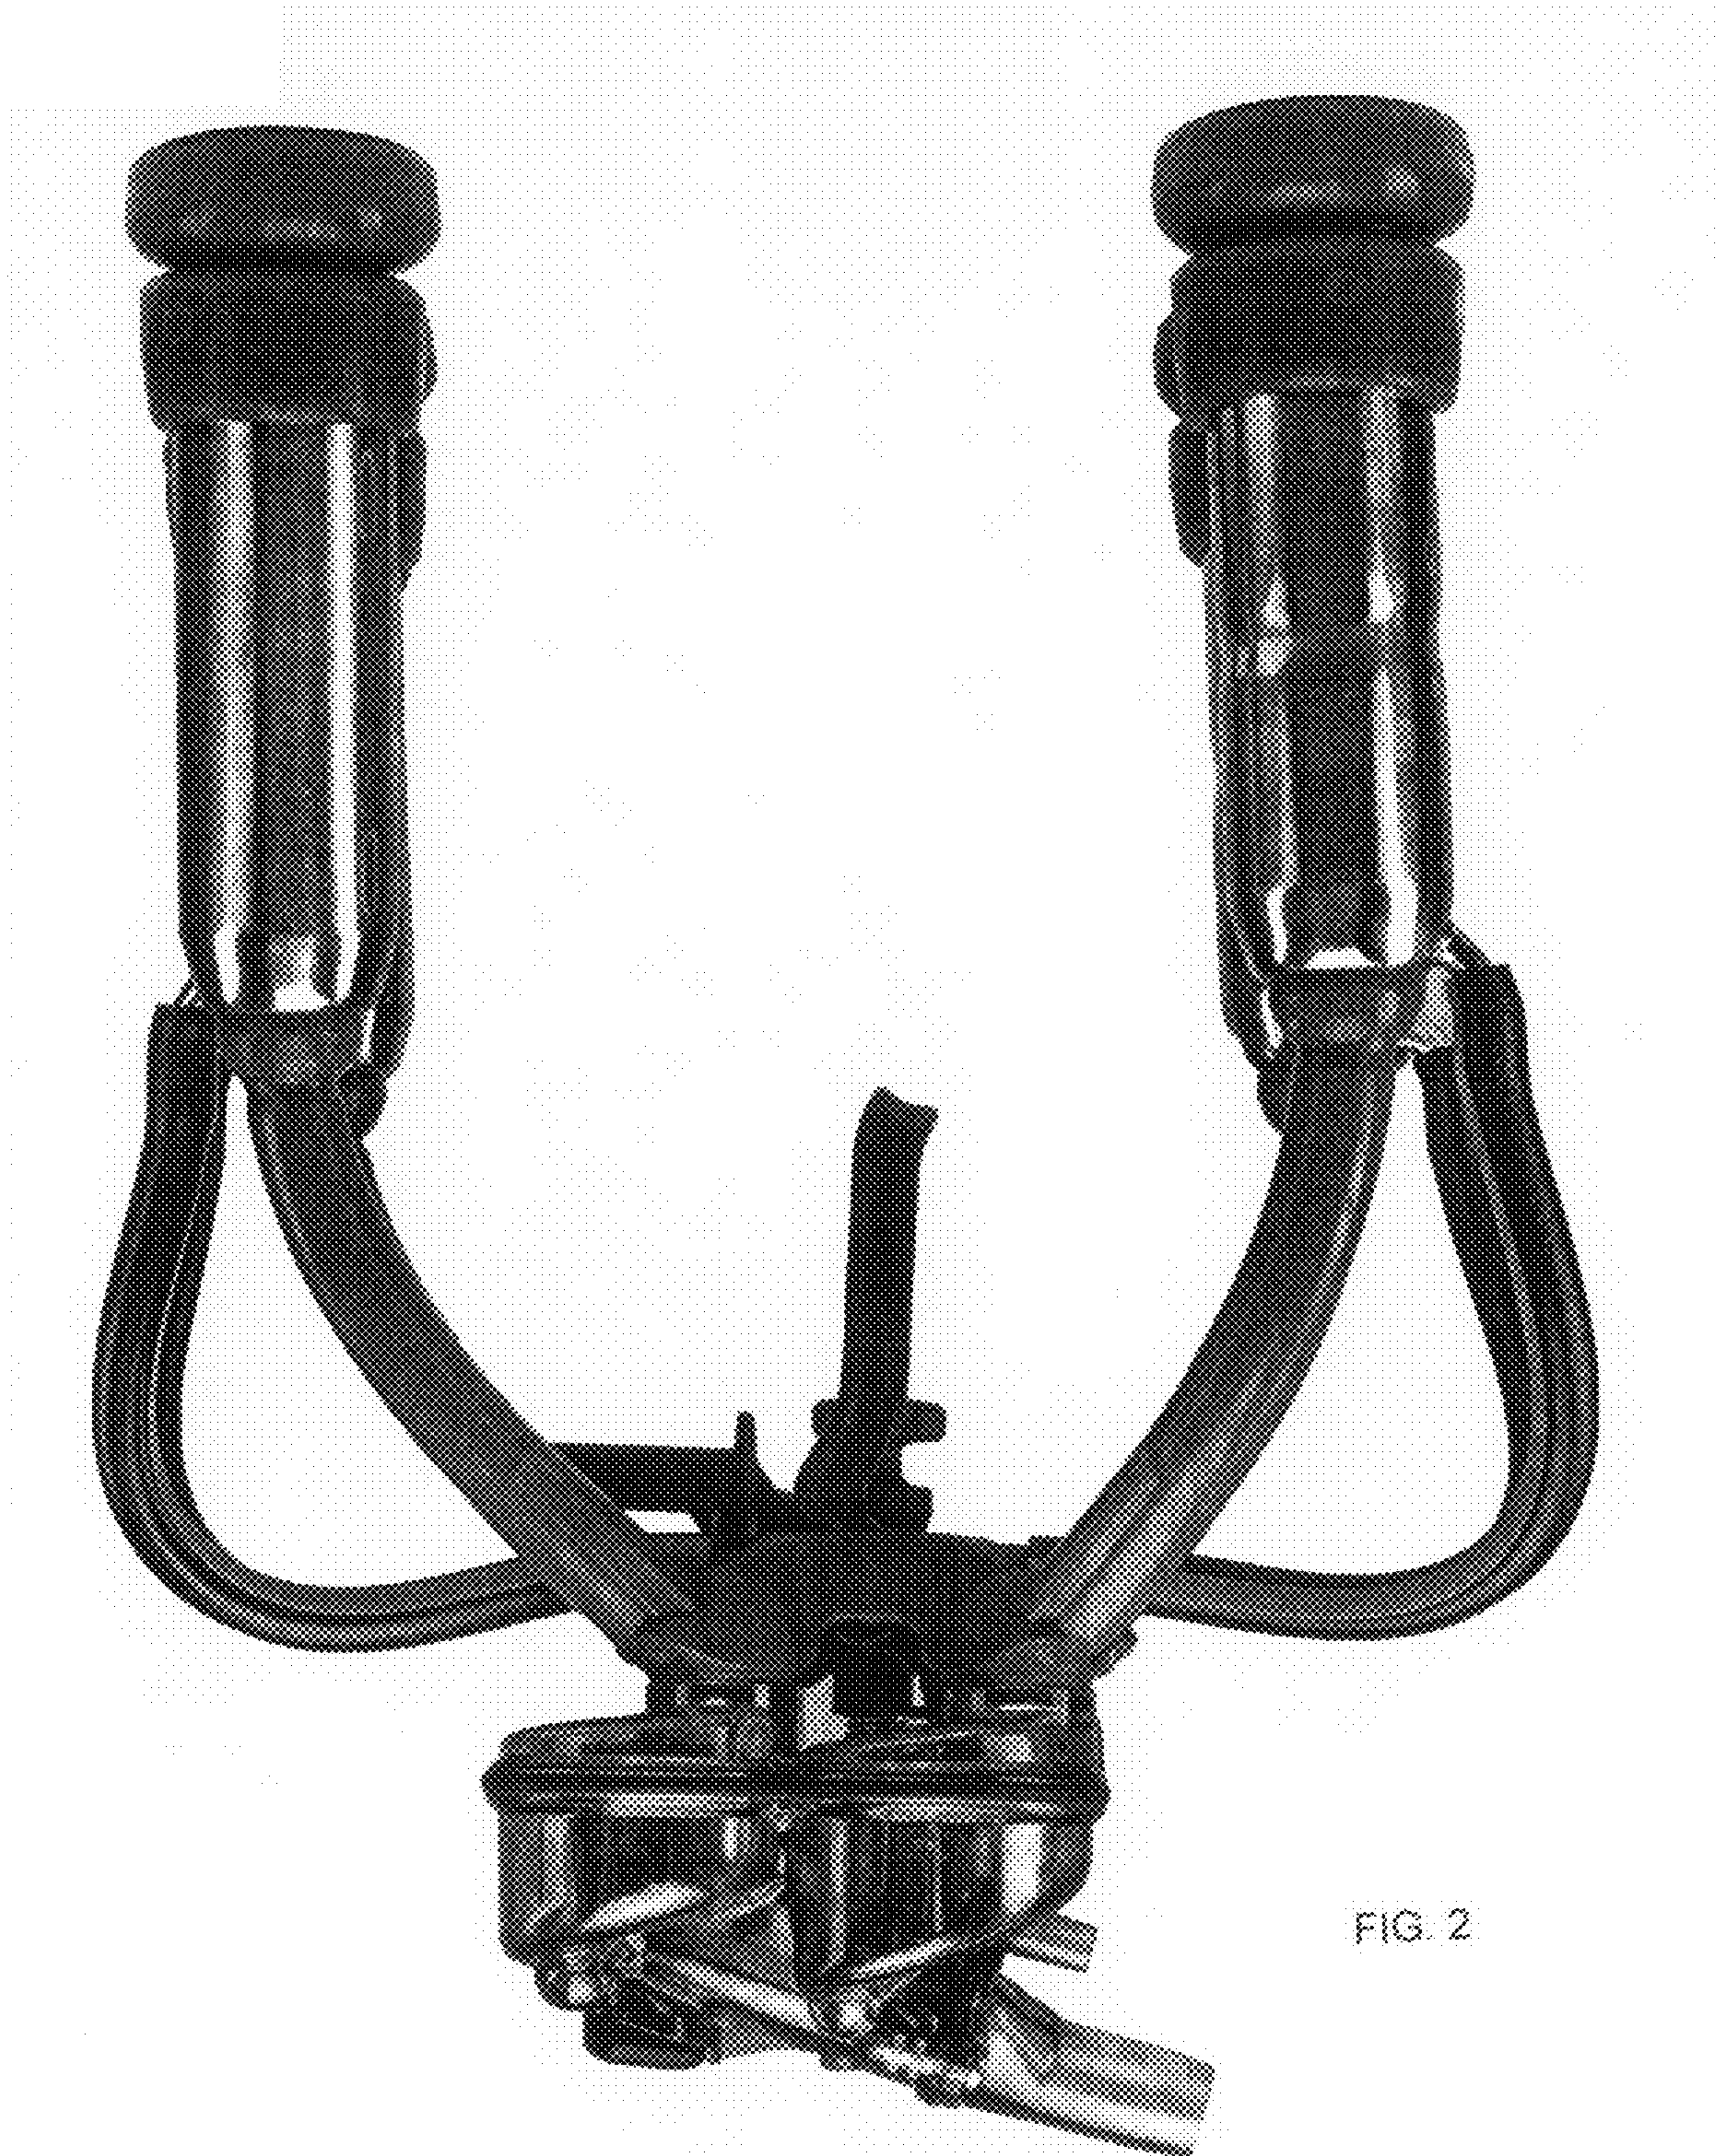

FIG. 2
- FIG. 2 is a side elevational view of the milking machine with the lever in a raised position;